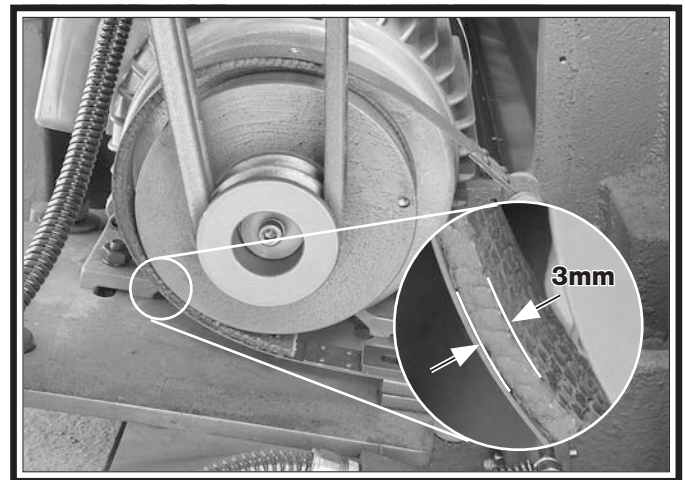

Figure 124. Minimum brake belt thickness.
- Measure the remaining brake band lining at the thinnest point, which is usually at the 8 o'clock position, as shown in **Figure 124**.